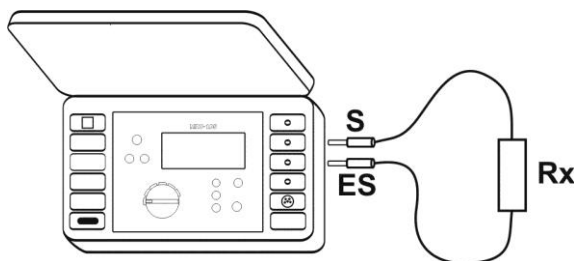

Figure 6. Two-pole method of resistance measurement
1. Connect the test leads to the terminals **[2]** and **[3]** labeled „S” and „ES” respectively (Fig. 6).